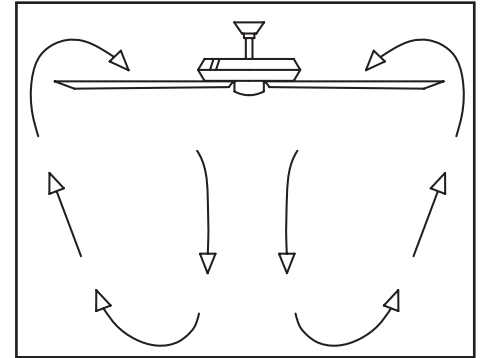

Figure 22
**Warm weather - (Forward)** A downward air flow creates a cooling effect as shown in Figure 22. This allows you to set your air conditioner on a higher setting without affecting your comfort.